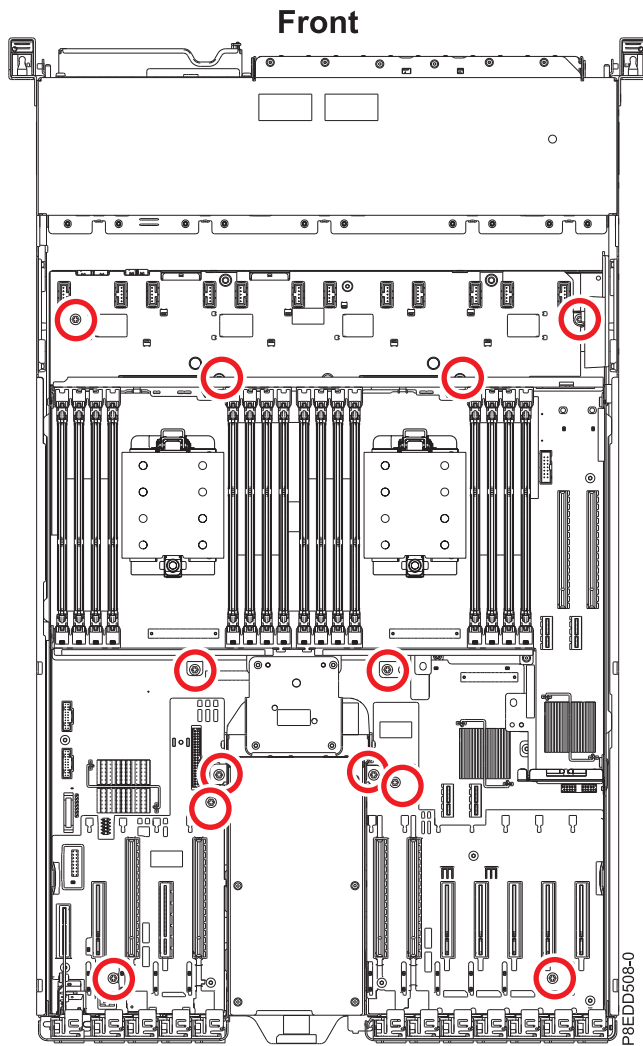

Figure 180. System backplane screw locations
- c. Using a Phillips screwdriver, install and tighten 12 screws to secure the backplane to the base of the chassis. See Figure 180 on page 183.